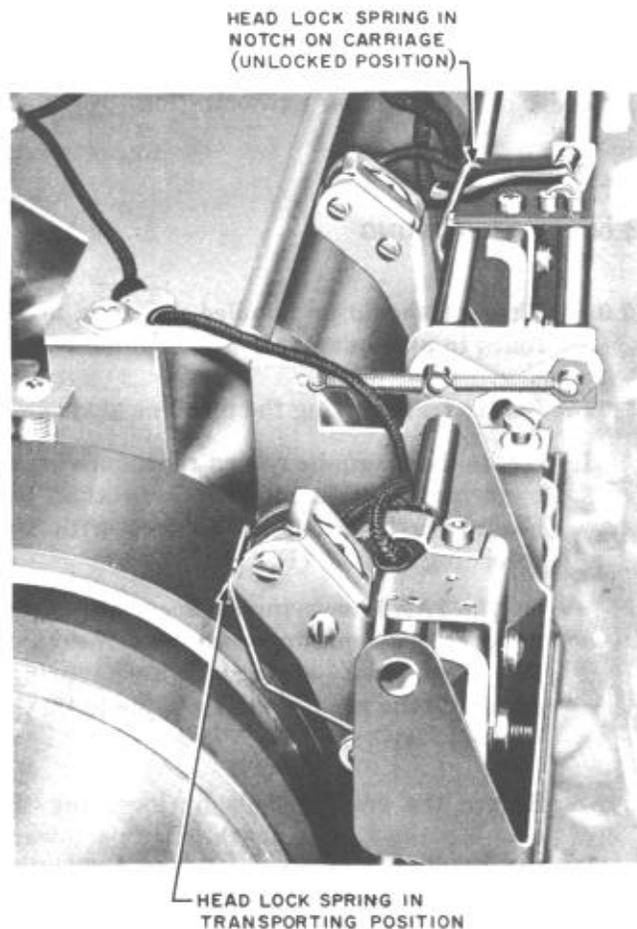

Fig. 3 - Record Reproduce Head Lock Springs for 1AA Answering Sets
- On the 1AA answering set secure the magnetic record-reproduce heads by means of the head lock springs. These springs eliminate the need of lacing twine to tie the heads (Fig. 3).
- On the 1AA answering set release the head lock springs holding the magnetic record—reproduce heads and place in notches (unlocked positions) on carriages (Fig. 3).